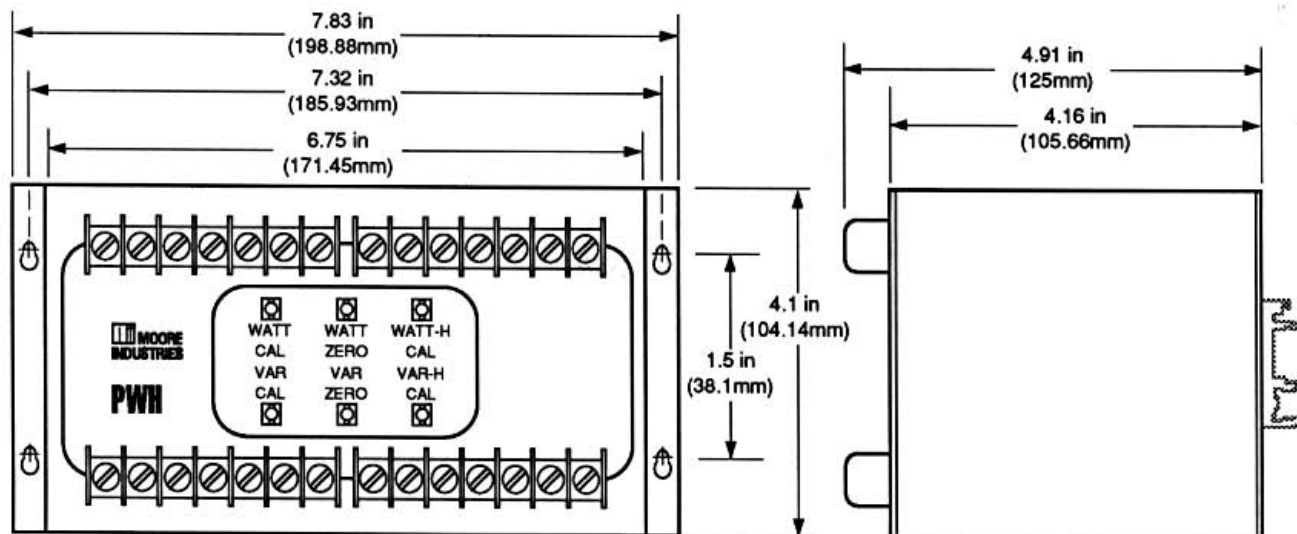
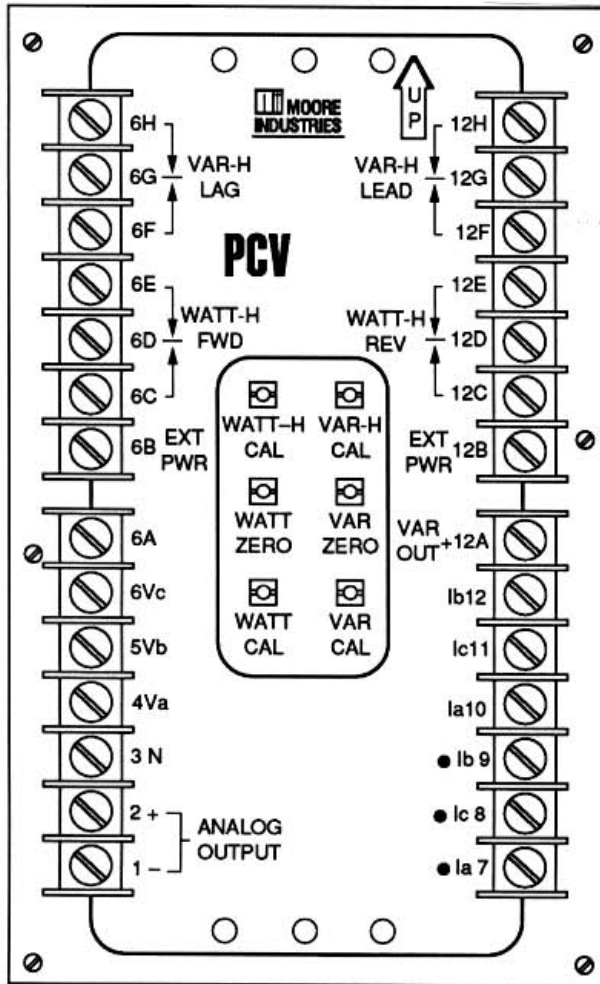

Figure 11. PCV Mounting Dimensions
Figure 12. Vertical Mount Front Panel (Example)
Depending on the housing style and options ordered, the PCV is either surface mounted (SM) or DIN-rail mounted (DM). Figure 11 contains the mounting dimensions for both of these housing styles. When mounting the PCV, ensure it is mounted on a vertical plane in an area free of dust, moisture and corrosive elements.
PCVs ordered with the RMB or RMU output option must be mounted on a vertical plane with their length extended vertically. This positioning is necessary for proper operation of the mercury-wetted relays inside the PCV. The correct upright position is identified by the layout of the unit's front panel. The mounting dimensions for vertical-mount units is the same as those given in figure 11. Figure 12 illustrates a 3-element, vertical-mount front panel for reference purposes. Vertical-mount units are packaged in either an SM or DM housing.
Surface-mount (SM) units may be mounted on any vertical plane. However, it is recommended that the PCV be mounted on a surface that helps dissipate heat away from it, especially if the ambient temperature is unusually high. Surface-mount units have four keyhole cutouts in their mounting plate for easy mounting and removal (see figure 11).